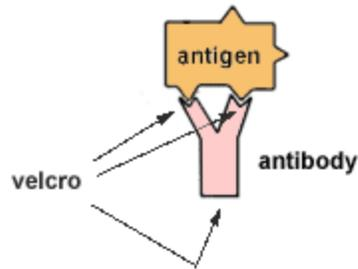

FIG. 5. Sponge cut to resemble an IgG antibody molecule complementary to the antigen in Fig.1 with velcro attached to the variable and Fc regions.
B. Positive control packet. Cut a sponge into a Y-shape so it resembles an immunoglobulin G (IgG) antibody molecule. In the section of the sponge representing the variable (antigen-binding) region, cut out a complementary shape to fit the epitope of the antigen shown in Fig. 1. Glue the corresponding piece of Velcro on the variable region so that it will bind to the Velcro on the epitope of the antigen shown in Fig. 1. Also glue Velcro onto the Fc region of the antibody molecule (Fig. 5). Place in a plastic bag labeled "Positive Control".